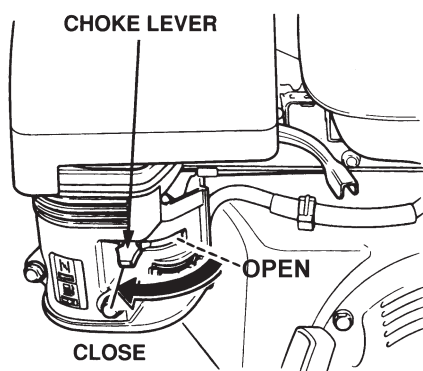

Figure 8. Choke Lever
2. To start a cold engine, move the choke lever (Figure 8) to the CLOSED position.